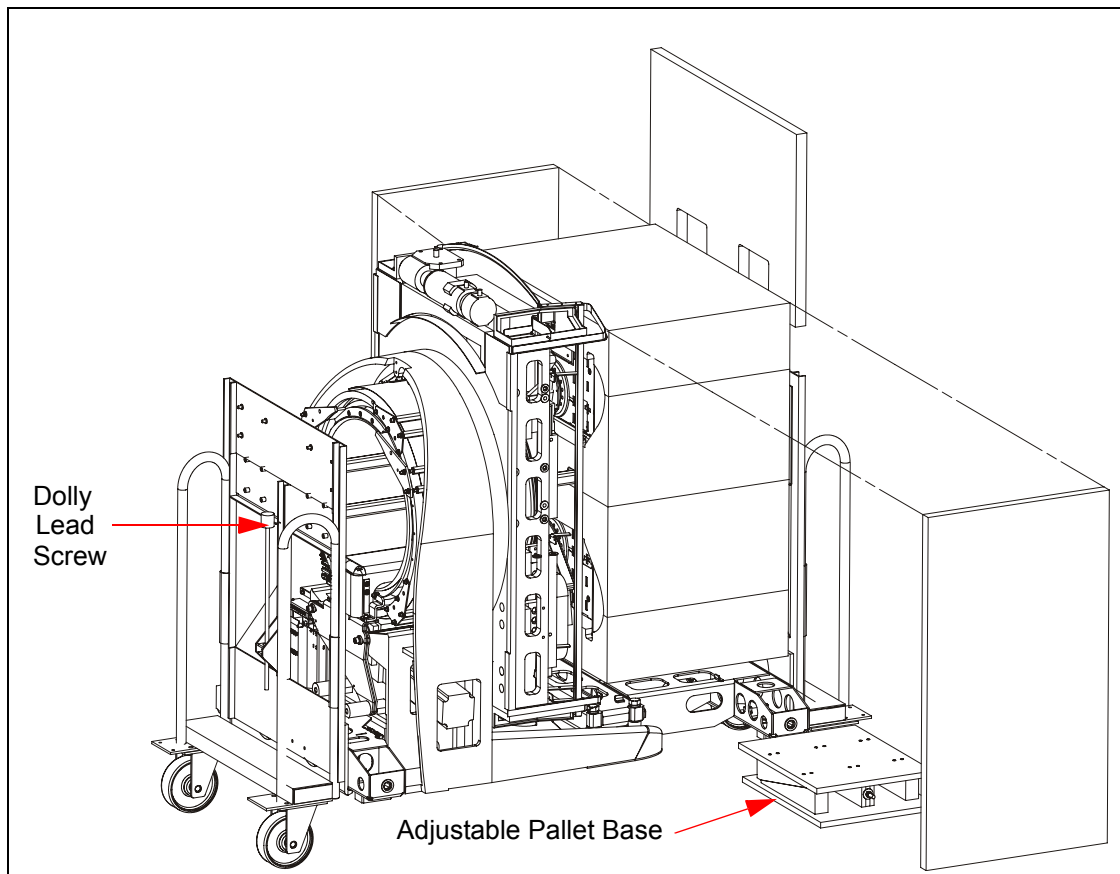

Figure C-4 Removal of Cranes and Base Pallet
3. Use a 5/8 socket and ratchet handle to turn the lead screw and raise the Gantry crate so that it's full weight is supported on the dolly wheels. (see Figure C-4).